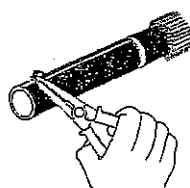

Fig.3c
- 1h) With a depth gauge set to 0.4mm cut two parallel 'tram lines', 5mm apart to the cable end. See Fig.3c.